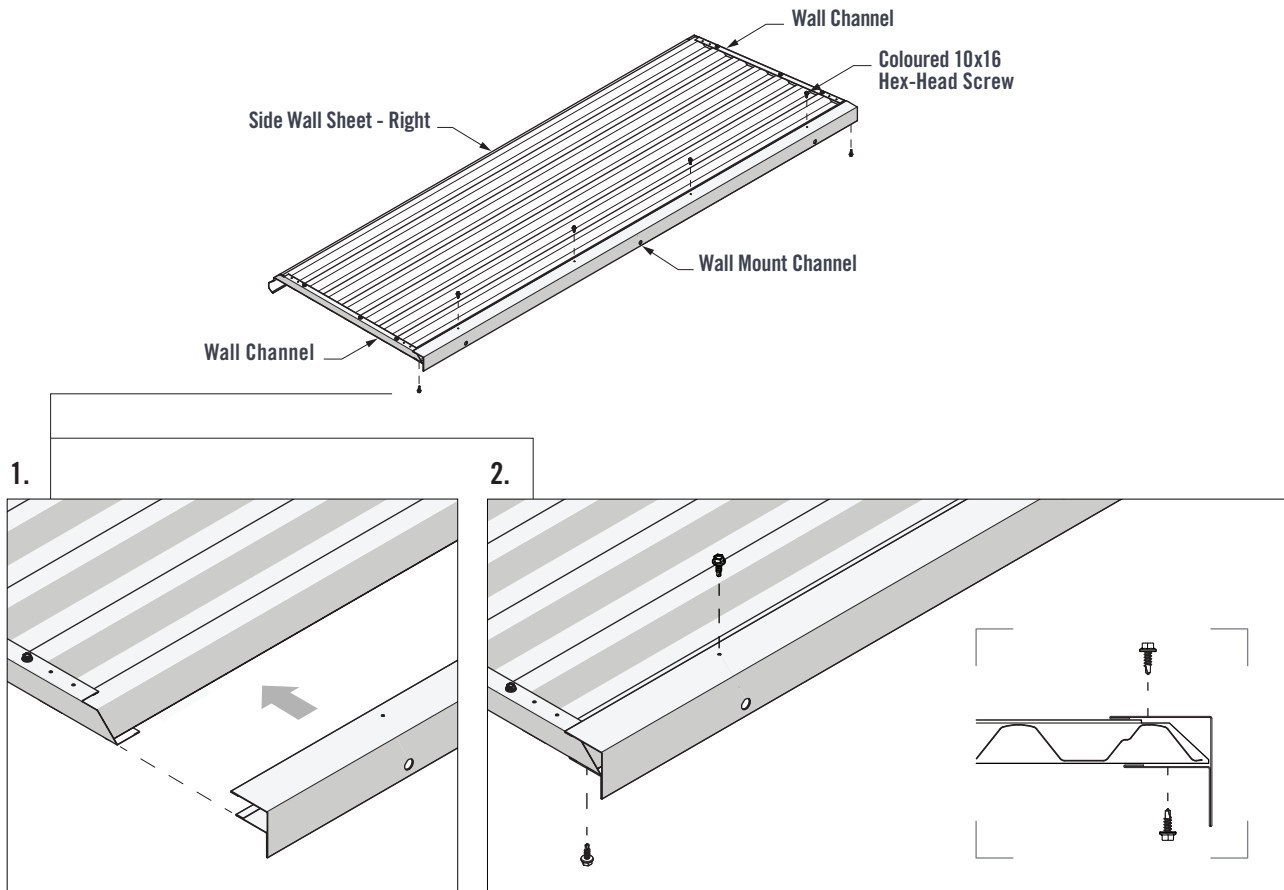

FIGURE 2.3
1. Fit the Wall Mount Channel over the Side Wall Sheet (Right). The end of the Wall Mount Channel should fit up against the end of the Wall Channel (Figure 2.3).
2. Fasten six Coloured 10x16 Hex-Head Screws through the pilot holes of the Wall Mount Channel and into the Side Wall Sheet (Right) and Wall Channels (Figure 2.3).